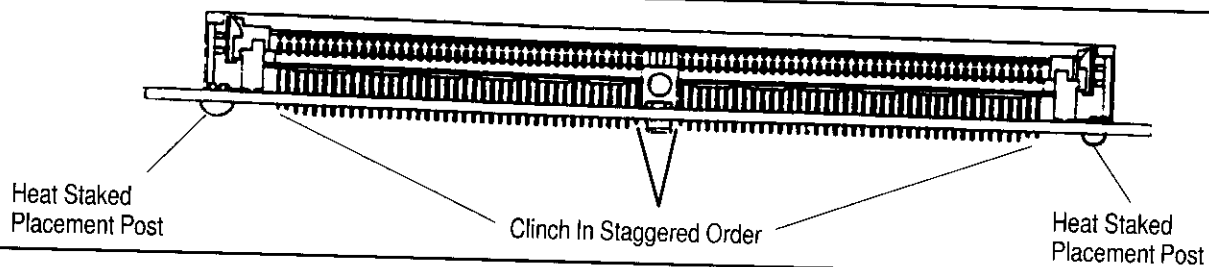

Figure 7
1. If socket is heat staked prior to clinching, clinch the center two socket assembly solder tines as indicated in Figures 7 and 8. Socket shall be parallel to and resting on the pc board.
2. If socket is not heat staked prior to clinching, clinch the end two and center two assembly solder tines as indicated in Figures 7 and 8. Socket shall be parallel to and resting on the pc board.